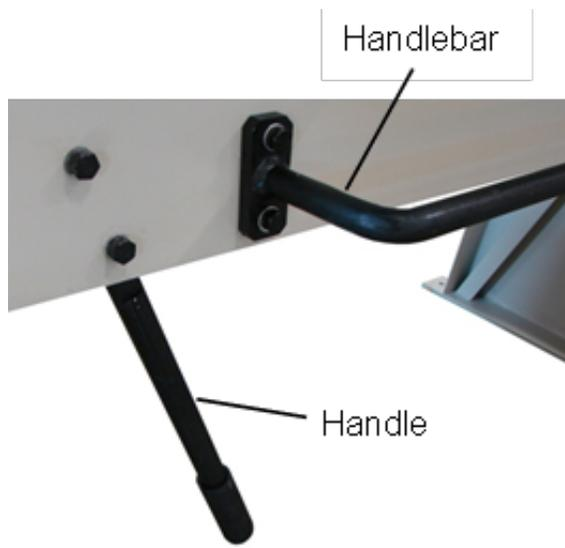

Figure:6-9
1. Mount the handlebar to the front side of the bending leaf with (4) M10 x 40mm lg. capscrews, flat washers, and lockwashers as shown in (fig. 6-9) below.
2. Locate and secure the two handles to the backside of the bending plate with (4) M10 x 40mm lg. capscrews, flat washers, and lockwashers as shown.